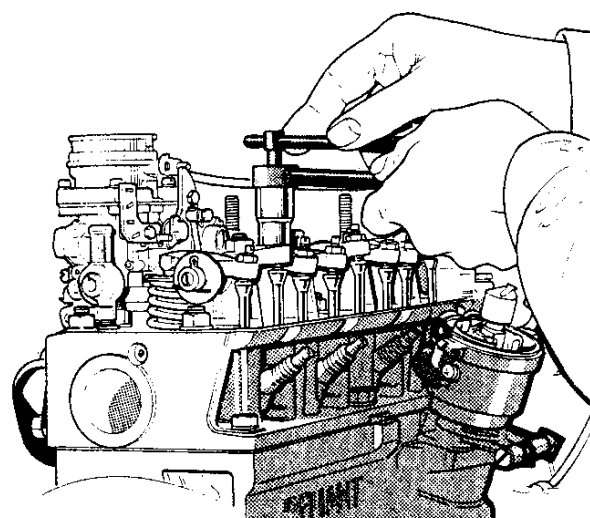

Figure 30 Tappet adjustment tool
5. Refit rocker cover, renewing gasket if necessary. Alternatively the tappets can be adjusted using a proprietary tool similar to No. 6500A (see **figure 30**).